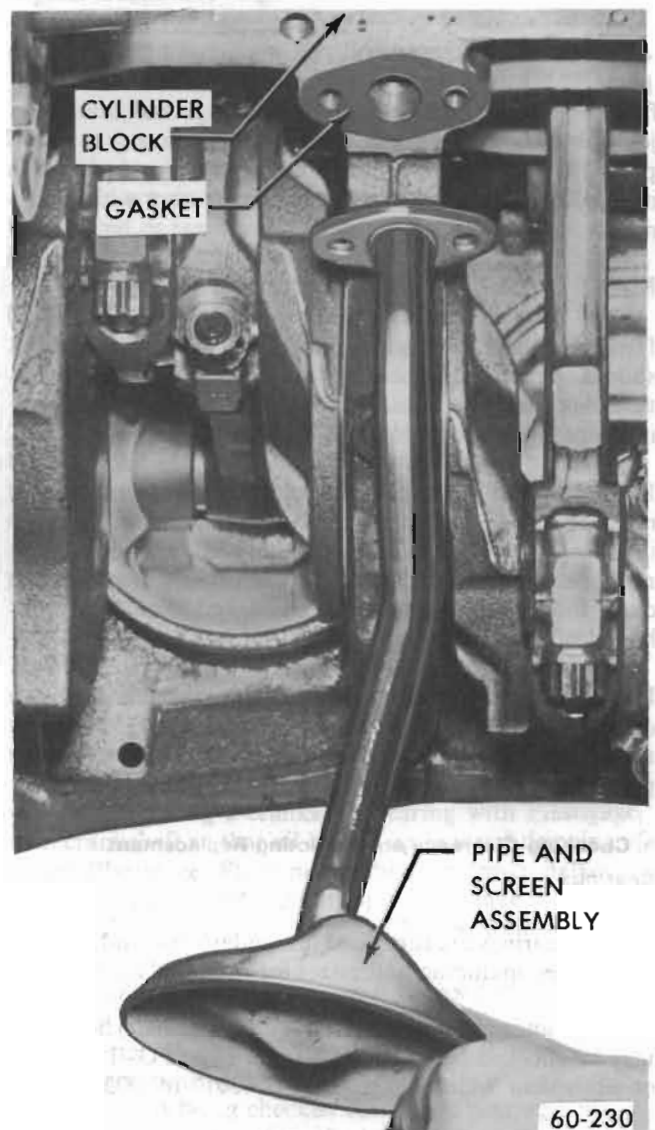

Figure 60-89 - Oil Pickup Pipe and Screen
2. Use new gasket and tighten bolts to 8 lb. ft. torque. See Figure 60-89.